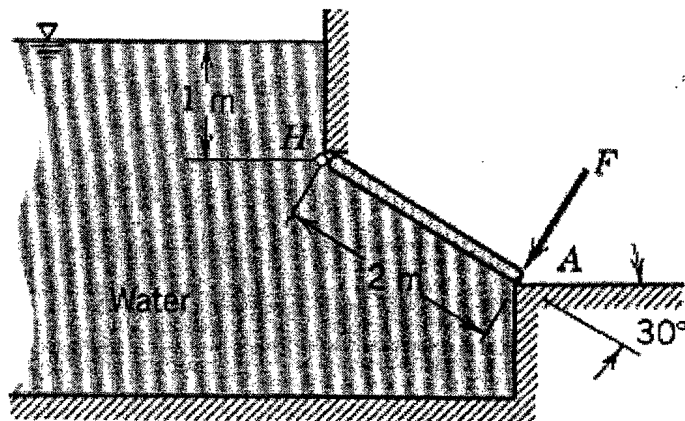

Fig. 2
5. The gate shown in Fig. 2 is hinged at H. The gate is 1.6 m wide normal to the plane of the diagram. (a) Calculate the resultant force due to the water pressure on the gate (b) Find the centre of pressure, and (c) Calculate the force required at A to hold the gate closed. [20 marks]